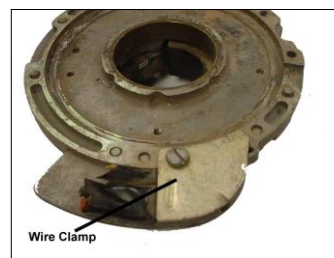

Fig. 2
6. Remove the wire clamp bracket on the bottom of the Stator plate. (Fig. 2)